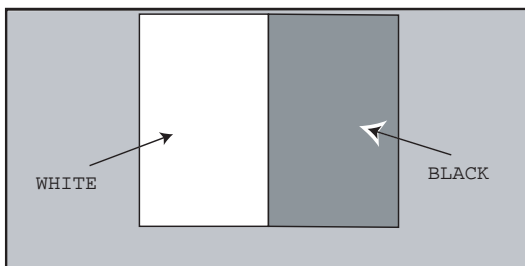

Figure 58. **Black/White Pattern**
3. Apply a Black/White pattern (See Figure 58)